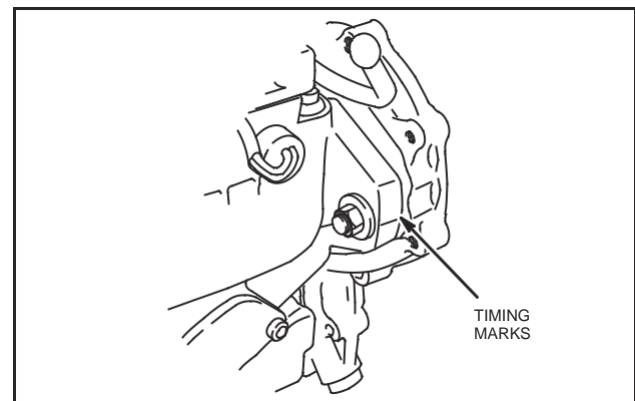

Fig. 16 – Install Injector Pump
3. Assemble injector pump to gear case with new O-ring and install nuts and support bracket screw finger tight, Fig. 16.